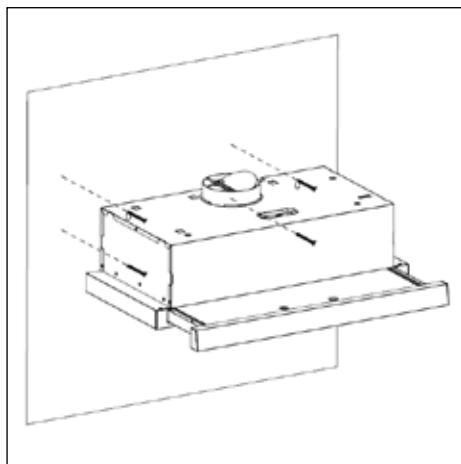

Fig. 5
4. Drill the holes and attach the hood to the top cabinet according to Fig. 4, or to the wall according to Fig. 5.